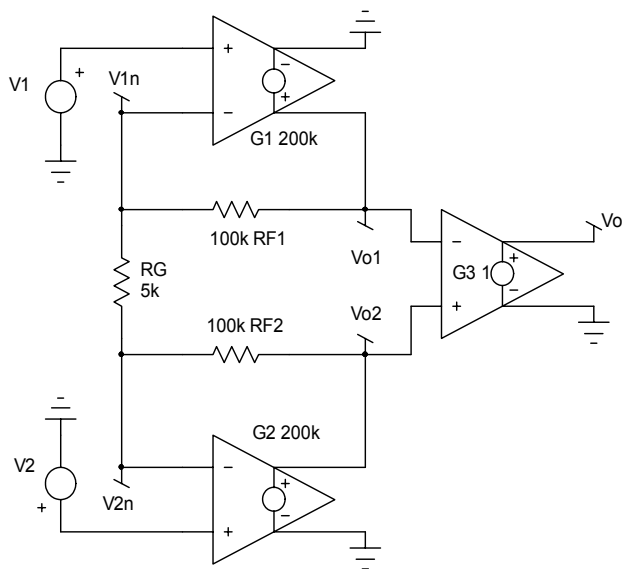

Figure 3
Figure 3 illustrates the basic instrumentation amplifier topology. In general, all individual internal Op Amps are fabricated on a single die or substrate and matched within the fabrication process capabilities. Resistors $RF1$, $RF2$ are internally fabricated on the die and matched. Resistor RG is usually external and controls the amplifier gain.
The error parameters of the Op Amp shown in Figure 1 cause output errors in an Instrument Amplifier. Errors are analyzed here to obtain first order approximation (FOA) insight into how they impact the output. The analytical process begins by substituting the model of Figure 1 for the amplifiers $G1$ and $G2$ in Figure 3.
- (f) Inputs $V1$ and $V2$ are the common mode voltages (V_{cm}) on amplifiers $G1$ and $G2$ in Figure 3, and
- (g) $G3$ in Figure 3 is an ideal unity gain amplifier.
Table 3 illustrates the impact of error parameters on the output voltage of the instrument amplifier in Figure 3.